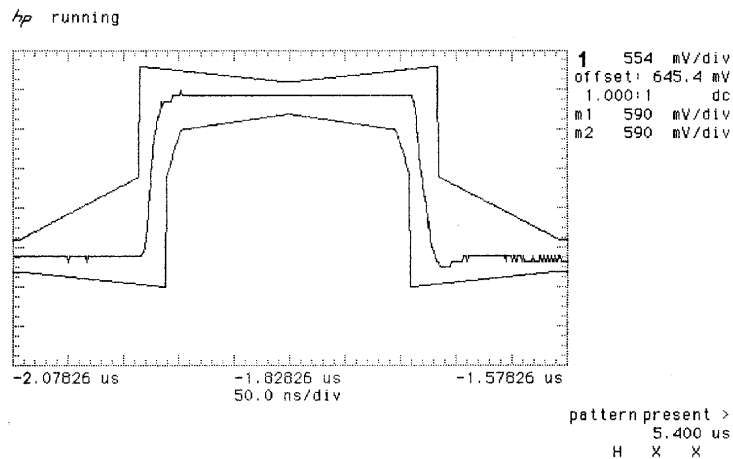

Figure 3-30
- Press SHIFT **AUTOSCALE** on the oscilloscope to automatically align the pulse to the mask. Verify that the pulse falls within the mask as shown in Figure 3-30.